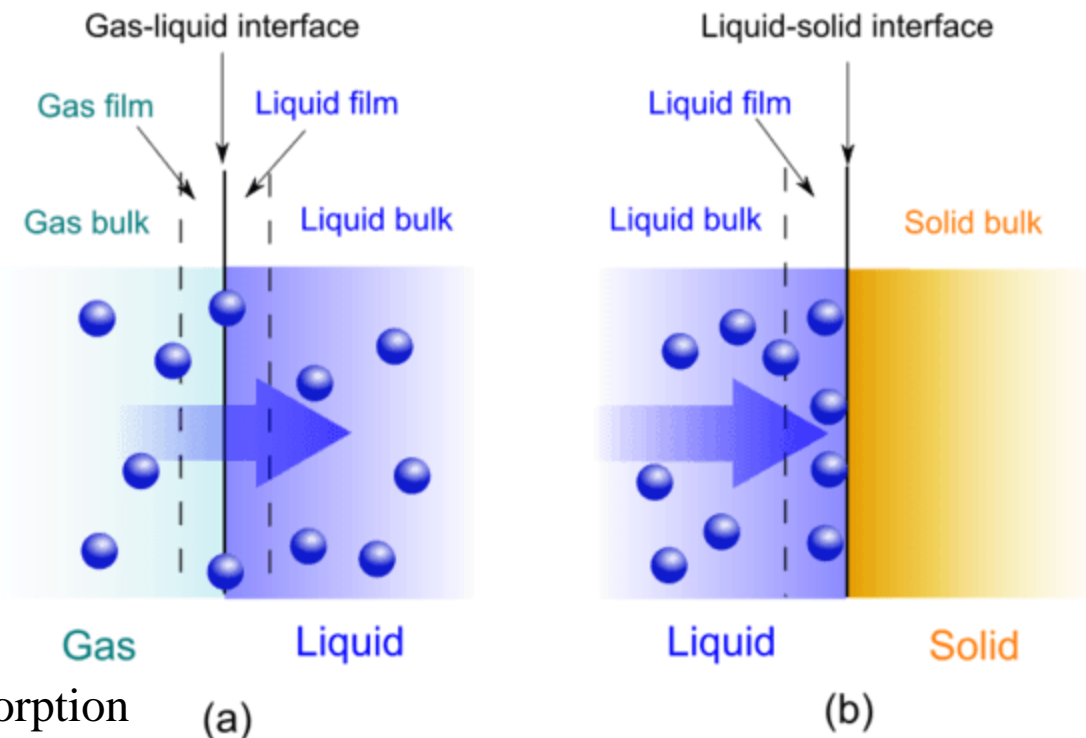

Figure 8: Absorption and Adsorption
- **Adsorption** is the process in which atoms, ions or molecules from a substance (it could be gas, liquid or dissolved solid) adhere to a surface of the adsorbent. (Figure 8)